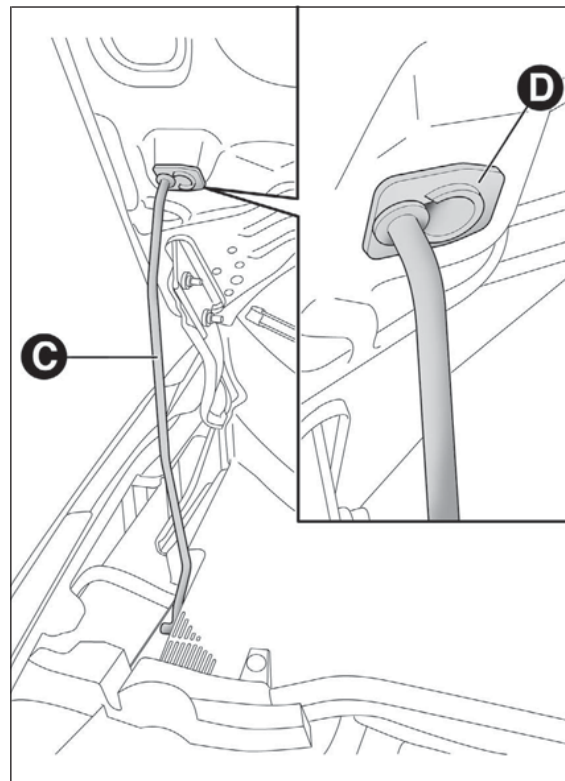

fig. 69
- lift the bonnet and, at the same time, release bonnet stay C fig. 69 from its locking device. Then, insert the end in housing D, making sure that the stay is engaged in the smallest opening of the retaining clip.
- hold the bonnet up with one hand and with the other remove rod C fig. 69 from housing D and fit it back into its locking device;